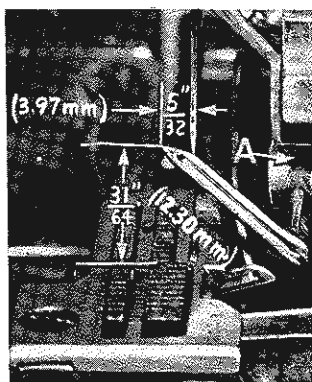

Fig. 10
Next, turn handwheel until looper is at the left end of its travel; check dimensions of upper looper point with respect to needle and throat plate (Fig. 10). If resetting is necessary, do it by moving the upper looper holder (A, Fig. 10). Figure 10 represents the dimensional setting for Styles 39500 QA, QB, RS, SE, SG, TA and TD.
If it becomes necessary to move looper thread pull-off (AF), be sure to take up all end play in needle drive shaft before tightening. If upper looper is located so that it is higher over throat plate than recommended in Fig. 10, the purl will tend to form near top edge. If upper looper is too low, the purl will form nearer bottom edge.